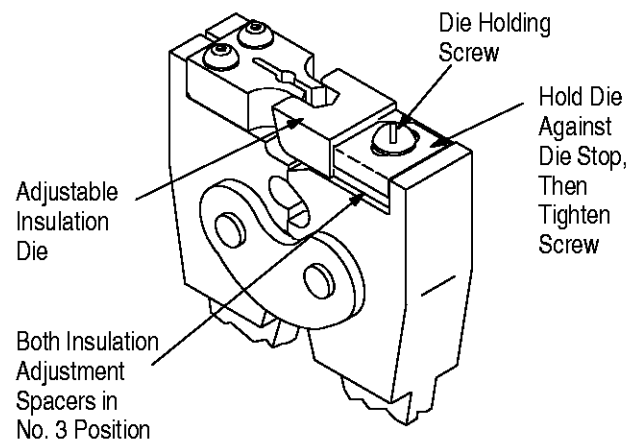

Figure 3
2. Turn both insulation adjustment spacers so they fit into notch in side of die. See Figure 3.
3. Hold die against die stop, replace and tighten screw. See Figure 3.